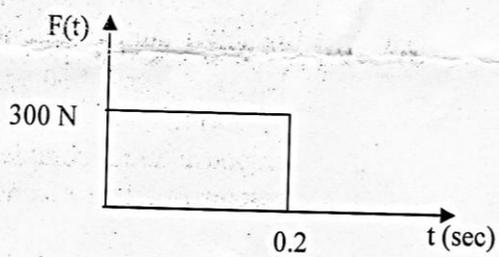

Fig.4
**Q.4 (b)** A single spring mass system has spring constant of 3000 N/m and mass of 30 kg. If it is loaded by an impulsive load as shown in the Figure 4, derive the equation of the response after completion of the impulse and find the responses at  $t = 1$  second. 07